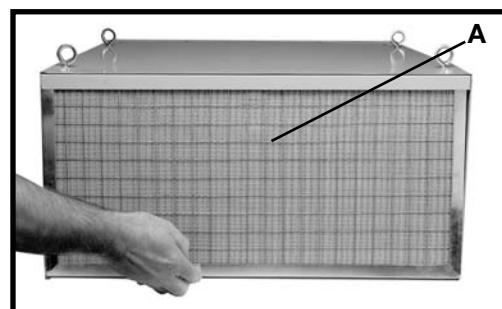
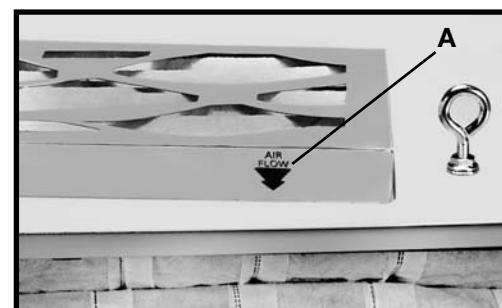

Fig. 9B
Fig. 9D
2. Remove the outer first stage filter (A) Fig. 9B by lifting and pulling out on the bottom of the filter. Clean or replace the first stage filter depending on its condition. Clean this filter in one of two ways: Use a shop vac to remove the dust, or use compressed air (30 psi maximum) to blow the dust out of the filter. If you replace the outer filter, check to see if the filter has an air flow arrow (A) Fig 9D. If so, point the arrow inward. If the filter does not have an air flow arrow, install the filter either way.